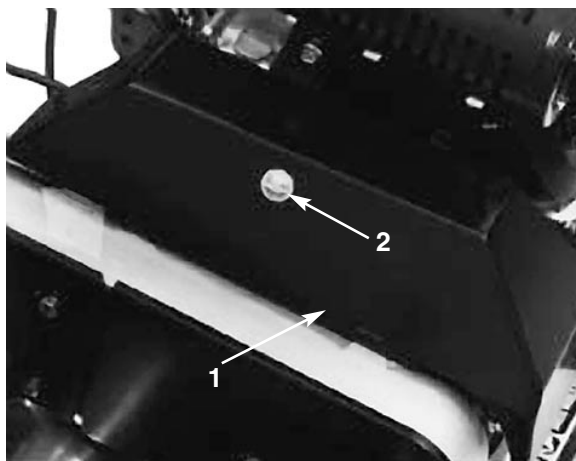

Figure 32
Primary v-belts (Fig. 32–33)
2. Loosen the retainer securing V-belt cover and pivot the cover open (Fig. 32).